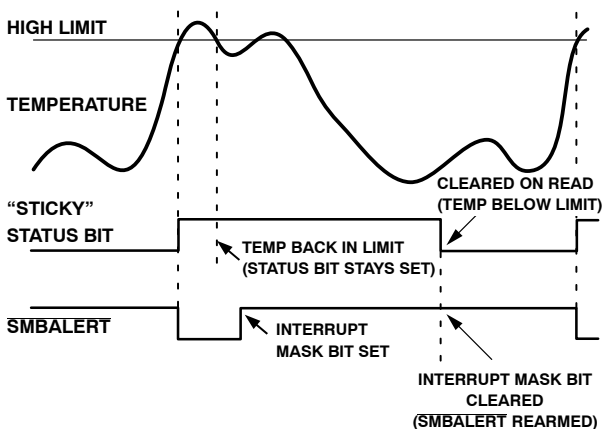

Figure 35. How Masking the Interrupt Source Affects $\overline{\text{SMBALERT}}$ Output
7. Periodically poll the status registers. If the interrupt status bit has cleared, reset the corresponding interrupt mask bit to 0. This causes the $\overline{\text{SMBALERT}}$ output and status bits to behave as shown in Figure 35.